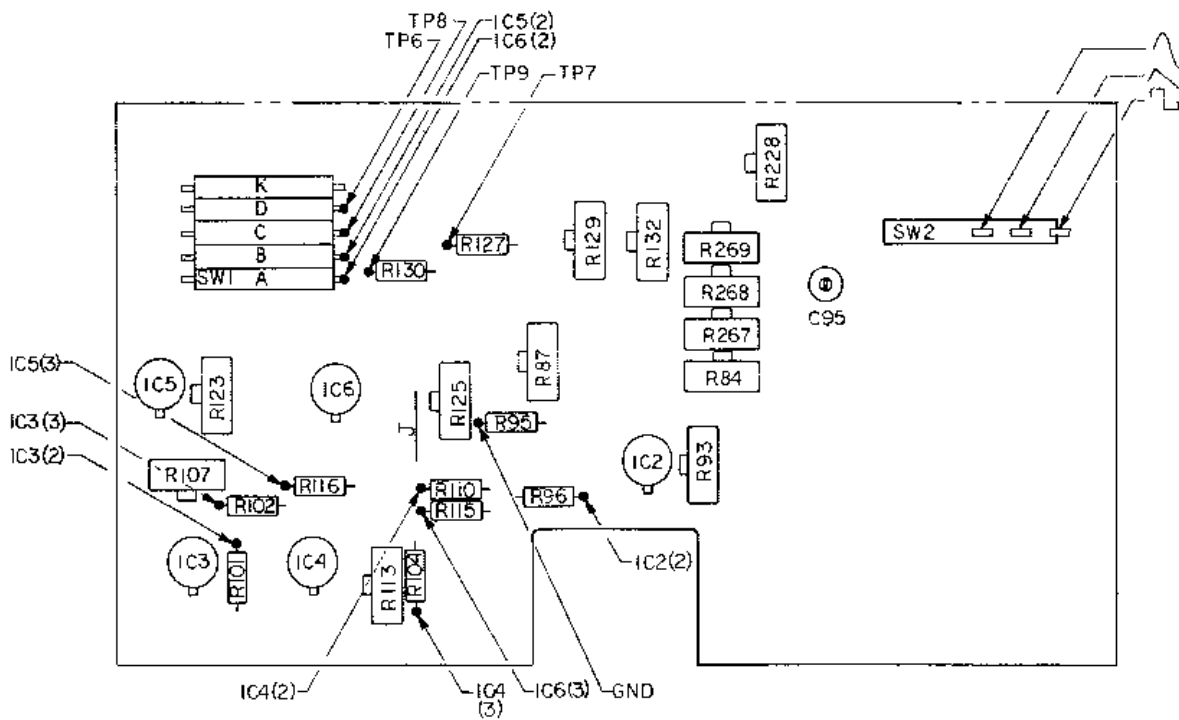

Figure 4-4 - Main Board Test & Calibration Points
17. Connect the oscilloscope probe (a type W or 1A5 plug-in module should be used with the scope) to $\sim$ position of the WAVEFORM selector switch, SW2, see Figure 4-4.
20. Set 30 V P-P MAX control to 3/4ths of full CW, and connect oscilloscope probe to $\sim$ position of the WAVEFORM selector switch (SW2), see Figure 4-4.